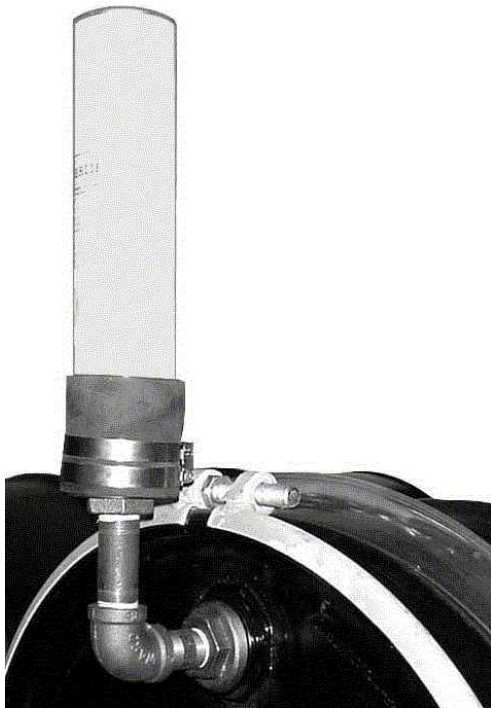

Figure 8. Disposable Cartridge with Window
6. Install two Disposable Cartridges (see Table 1. Recommended Parts or Equivalent) as shown in Figure 8, at the top port of each top drum.